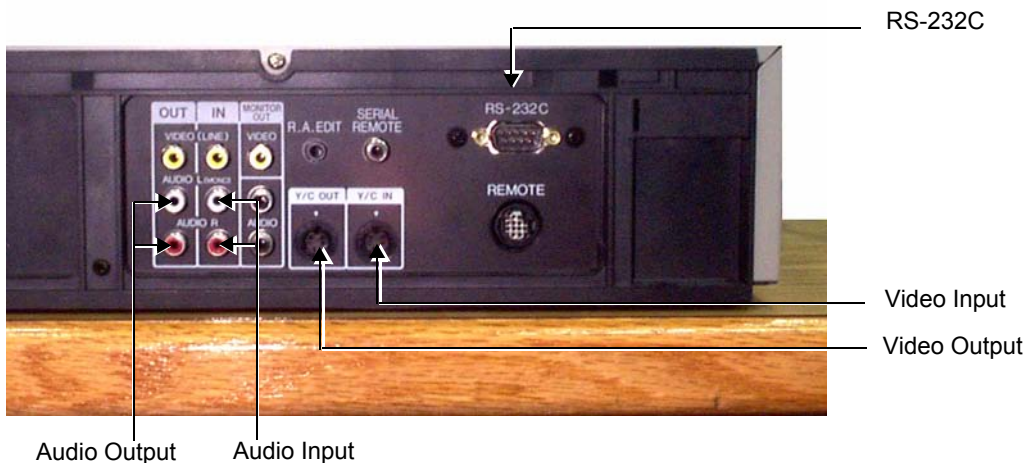

Figure 8-136 JVC VCR - Rear Connectors Panel
- 4.) Connect the VCR cables (listed below) to the appropriate sockets on the VCR rear panel (as shown in Figure 8-136):
- 5.) Disconnect the RS-232C cable, the Audio and S-Video IN and OUT cables from VCR rear connectors panel (refer to Figure 8-136 on page 8-145).